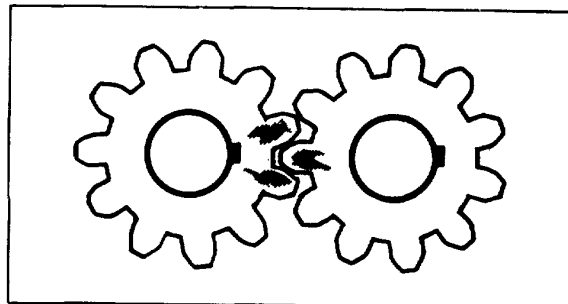

FIGURE 4 Marking of the Gears for Location
- f. Note position of relief pocket and drilled holes in the wear plates for proper reassembly. Mark the drive and driven pump gears with an india stone. See Figure 4 for proper reassembly. Note the location and number of gaskets, when disassembling.